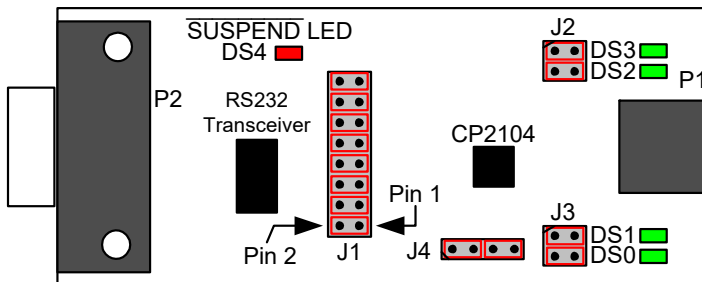

Figure 3. CP2104 Evaluation Board with Default Shorting Blocks Installed
The CP2104 Evaluation Kit includes an evaluation board with a CP2104 device pre-installed for evaluation and preliminary software development. Numerous input/output (I/O) connections are provided to facilitate prototyping using the evaluation board. Refer to Figure 3 for the locations of the various I/O connectors.
- Updated Figure 3 with shorting blocks installed.